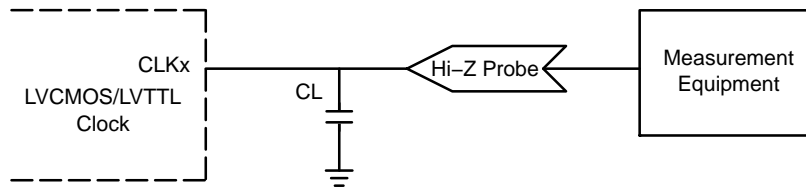

Figure 7. LVC MOS/LVTTL Parameter Measurement
5. Measurement taken with single ended clock outputs terminated with test load capacitance of 5 pF and 15 pF and differential clock terminated with test load of 2 pF. See Figures 7, 8 and 13. Specification for LVTTTL are valid for the V_{DD} 3.3 V only.